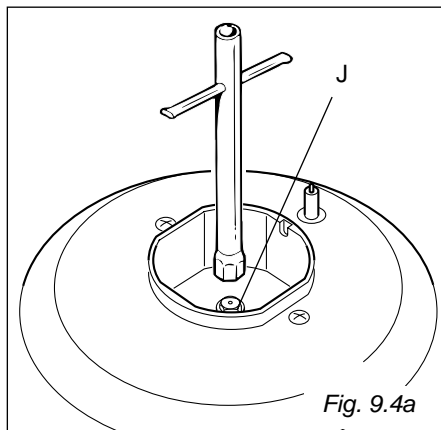

Fig. 9.4a
- Using a wrench, substitute the nozzle injectors “J” (fig. 9.4a, 9.4b) with those most suitable for the kind of gas for which it is to be used.